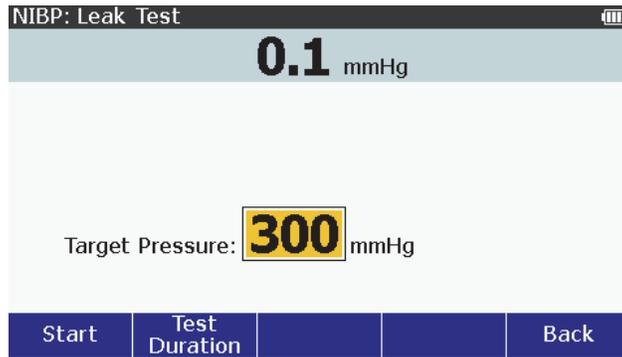

Figure 36. Leak Test Screen
4. Push **ENTER** to show the NIBP: Leak Test screen in Figure 36 on the display.